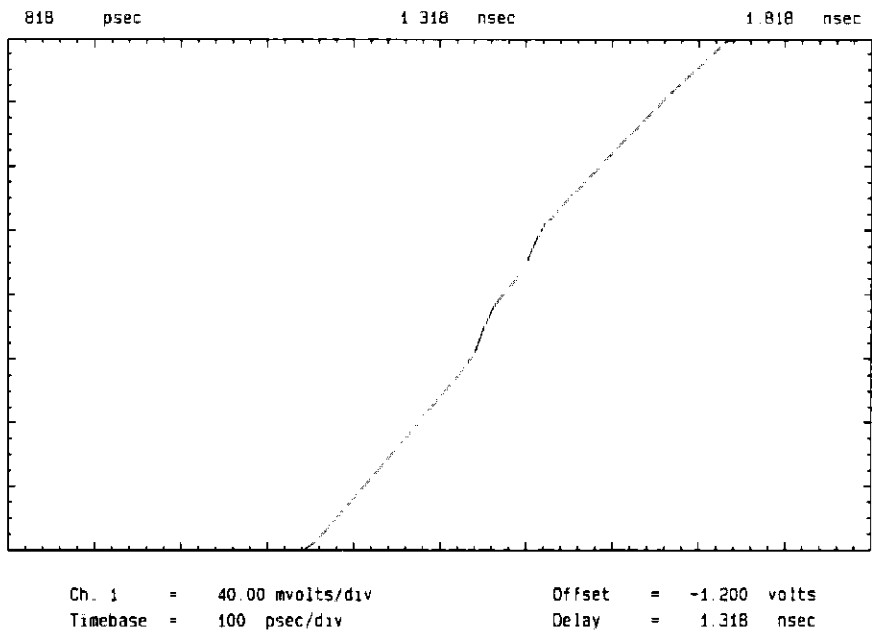

*Figure 4-7. Waveform when adjustment is correct.*
14. Refer to figure 4-7 for desired waveform at correct adjustment. A9R4 is adjusted correctly when there is a continuous smooth trace where there was once discontinuity.